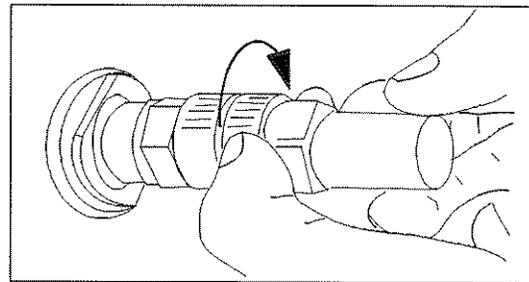

Figure 3-23. Make the Preliminary Connection Gently
3. Engage the connector nut over the threads on the second connector. Turn *only* the connector nut. Let the connector nut pull the two connectors straight together (see Figure 3-23).